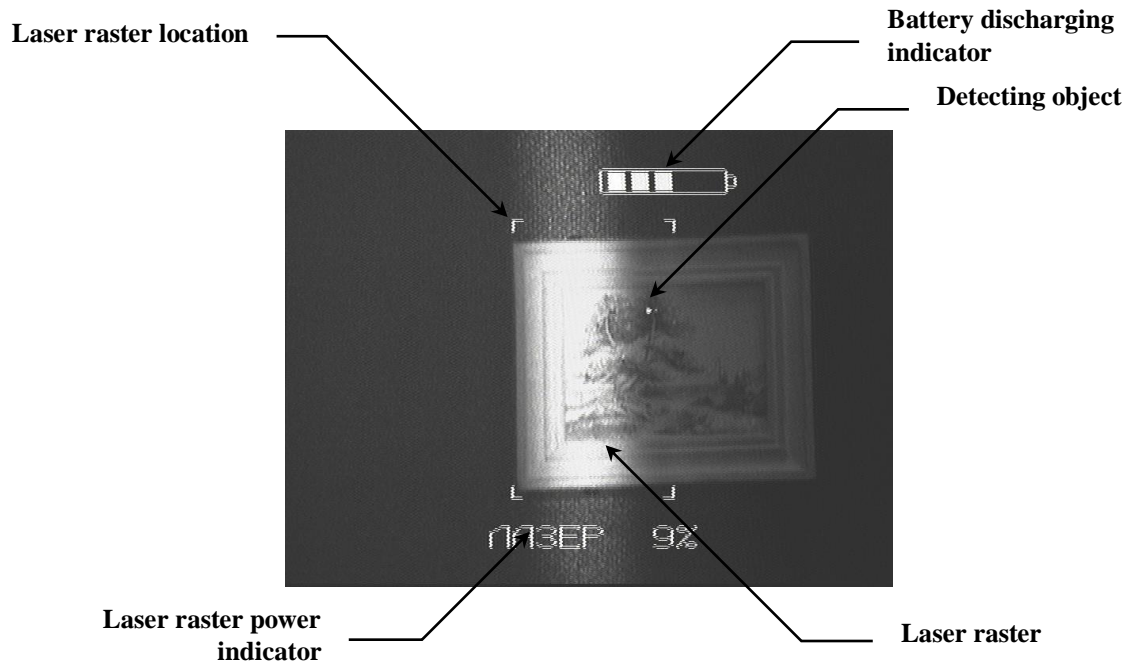

Fig. 4. Image sample received on.
1.4.4. Image sample received on ANTISVID-2 is shown in Figure 4.